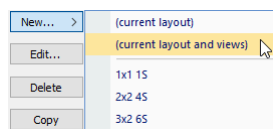

Figure 204 – Current layout and views item
3. Select the **(current layout and views)** item in the displayed menu (see Figure 204).